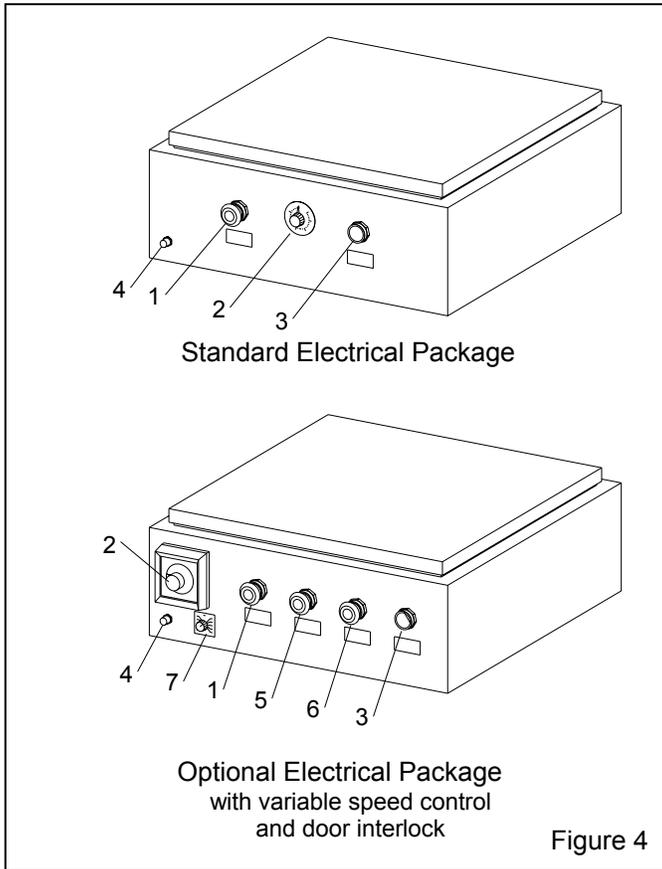

Figure 4
4.1 Control Panel Operation, Ref. Figure 4